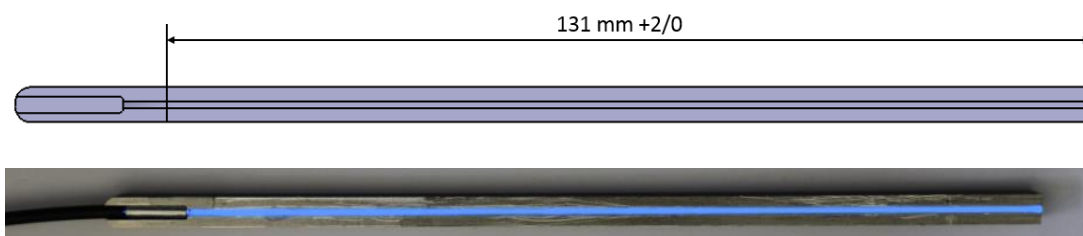

Figure 15 Scratching area; scratched light bar
3.1.3.5 The scratching of the fibre has to be done in a darkened room to be able to see directly the result by eye during light is injected to the fibre with the laser device. Before starting, **a control of the height of the Vernier height gauge with respect to the middle of the fibre in the light bar is necessary**. Scratch the fibre with a continuous movement so that light is coming out over the whole scratching area. In "Figure 15" the area and its delimitation is shown.